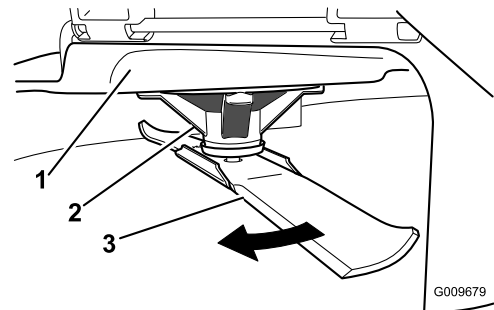

Figure 48
2. While wearing thickly-padded gloves, or other adequate hand protection, slowly rotate the blade to be measure into a position that allows effective measurement of the distance between the cutting edge and the level surface the machine is on (Figure 48).